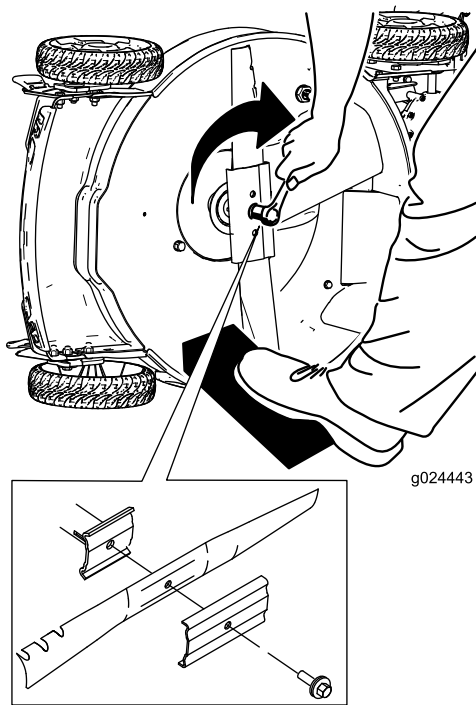

Figure 30
5. Install the new blade by turning the blade bolt clockwise (Figure 30).